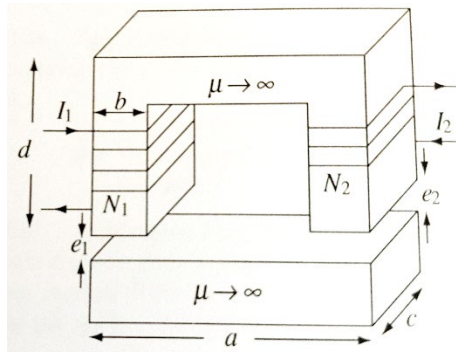

Figure 2
- (a) [8 marks] Figure 2 shows a magnetic device with two airgaps and two coils. The depth of the upper and lower pieces is the same. The upper piece has identical left and right limbs. The permeability of the magnetic core is infinite.
(ii)[5 marks] Using the currents, number of turns and the dimensions shown in Figure 2, find an expression for the flux density in the airgaps.
(b)[4 marks] The current I_1 in coil 1 of the Figure 2 is an AC sinusoidal current of frequency f , and induces a sinusoidal magnetic flux density of a peak value B_{max} . Such a time-varying magnetic field induces a voltage in coil 2 by Faraday's law. Show that the root mean square (RMS) value of the voltage induced in the coil 2 is given by
(c) [4 marks] The magnetic device of Figure 2 is designed to operate with 240 V(rms) and 50 Hz. For operation in a remote mining site, the device needs to connect to a diesel generator which generates sinusoidal AC voltage at 16.67 Hz. The generator output voltage (RMS) is adjustable. The cross-sectional area of the core $S_c = 0.052\text{m}^2$. The peak flux density B_{max} in the core must be limited to 1.1T to prevent magnetic saturation. What should be the voltage of the generator to run the device for the supply frequency 16.67 Hz?
(d) [4 marks] Explain how *eddy currents* occur in the core of the magnetic device shown in Figure 2. What will be the effect of eddy current in the device? How can we reduce this effect?